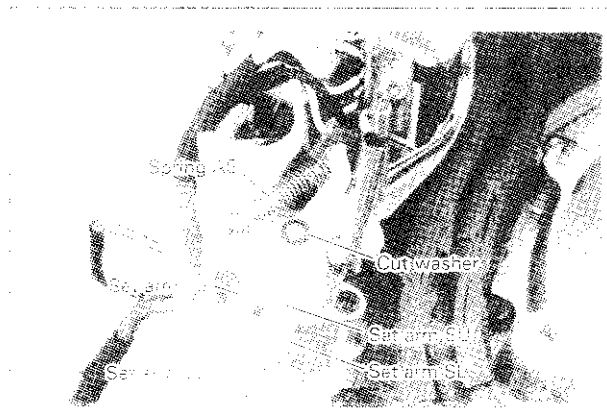

Fig. 3-21-13
- (1) Attach the set arm SU-LU and the spring AS (made with 1/2" dia. 1/2" washer) (See Fig. 3-21-13).